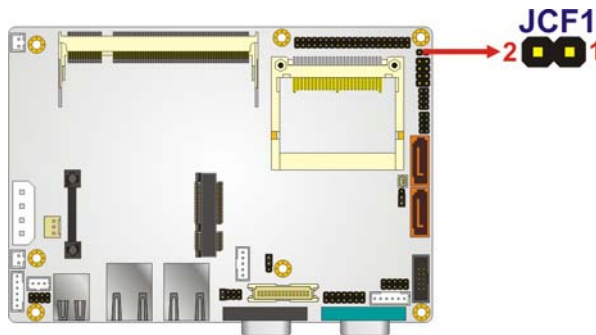

Figure 3-19: CF Card Setup Jumper Location
- Jumper Location:** See Figure 3-19
The CF Card Setup jumper location is shown in Figure 3-19.